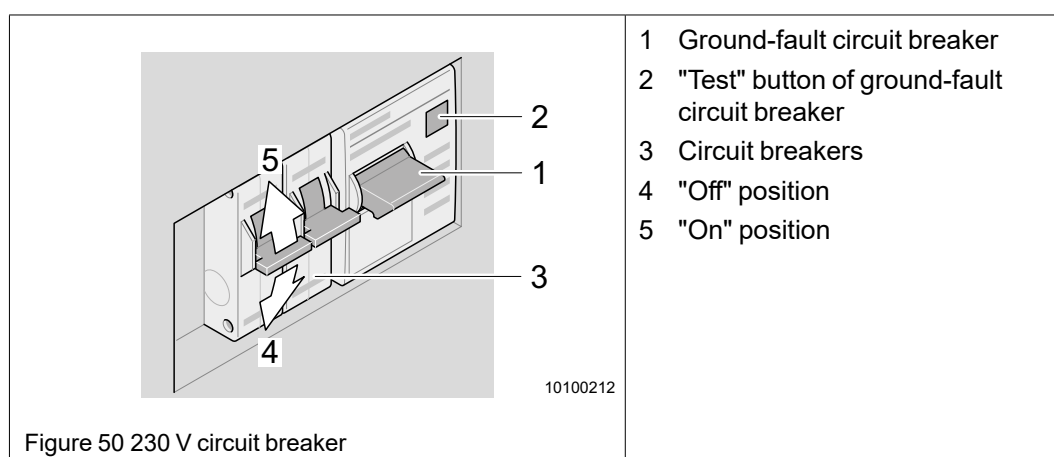

Figure 50 230 V circuit breaker
- ➔ Press the "Test" button (Figure 50/2) of the ground-fault circuit breaker with the 230V power supply connected.
The ground-fault circuit breaker(Figure 50/1) triggers, the switch handle springs to the "Off" position.
➔ To switch on the circuit breaker (Figure 50/3) push the switch handle upward.